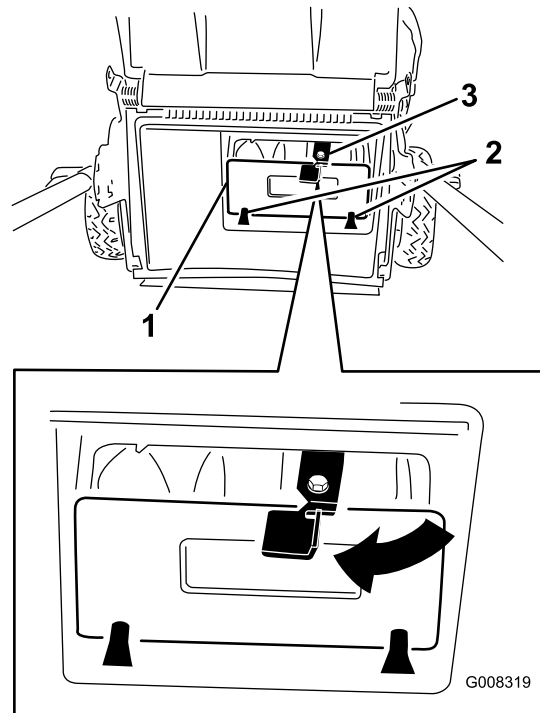

Figure 18
3. Rotate the lever lock clockwise into the locked position (Figure 18).